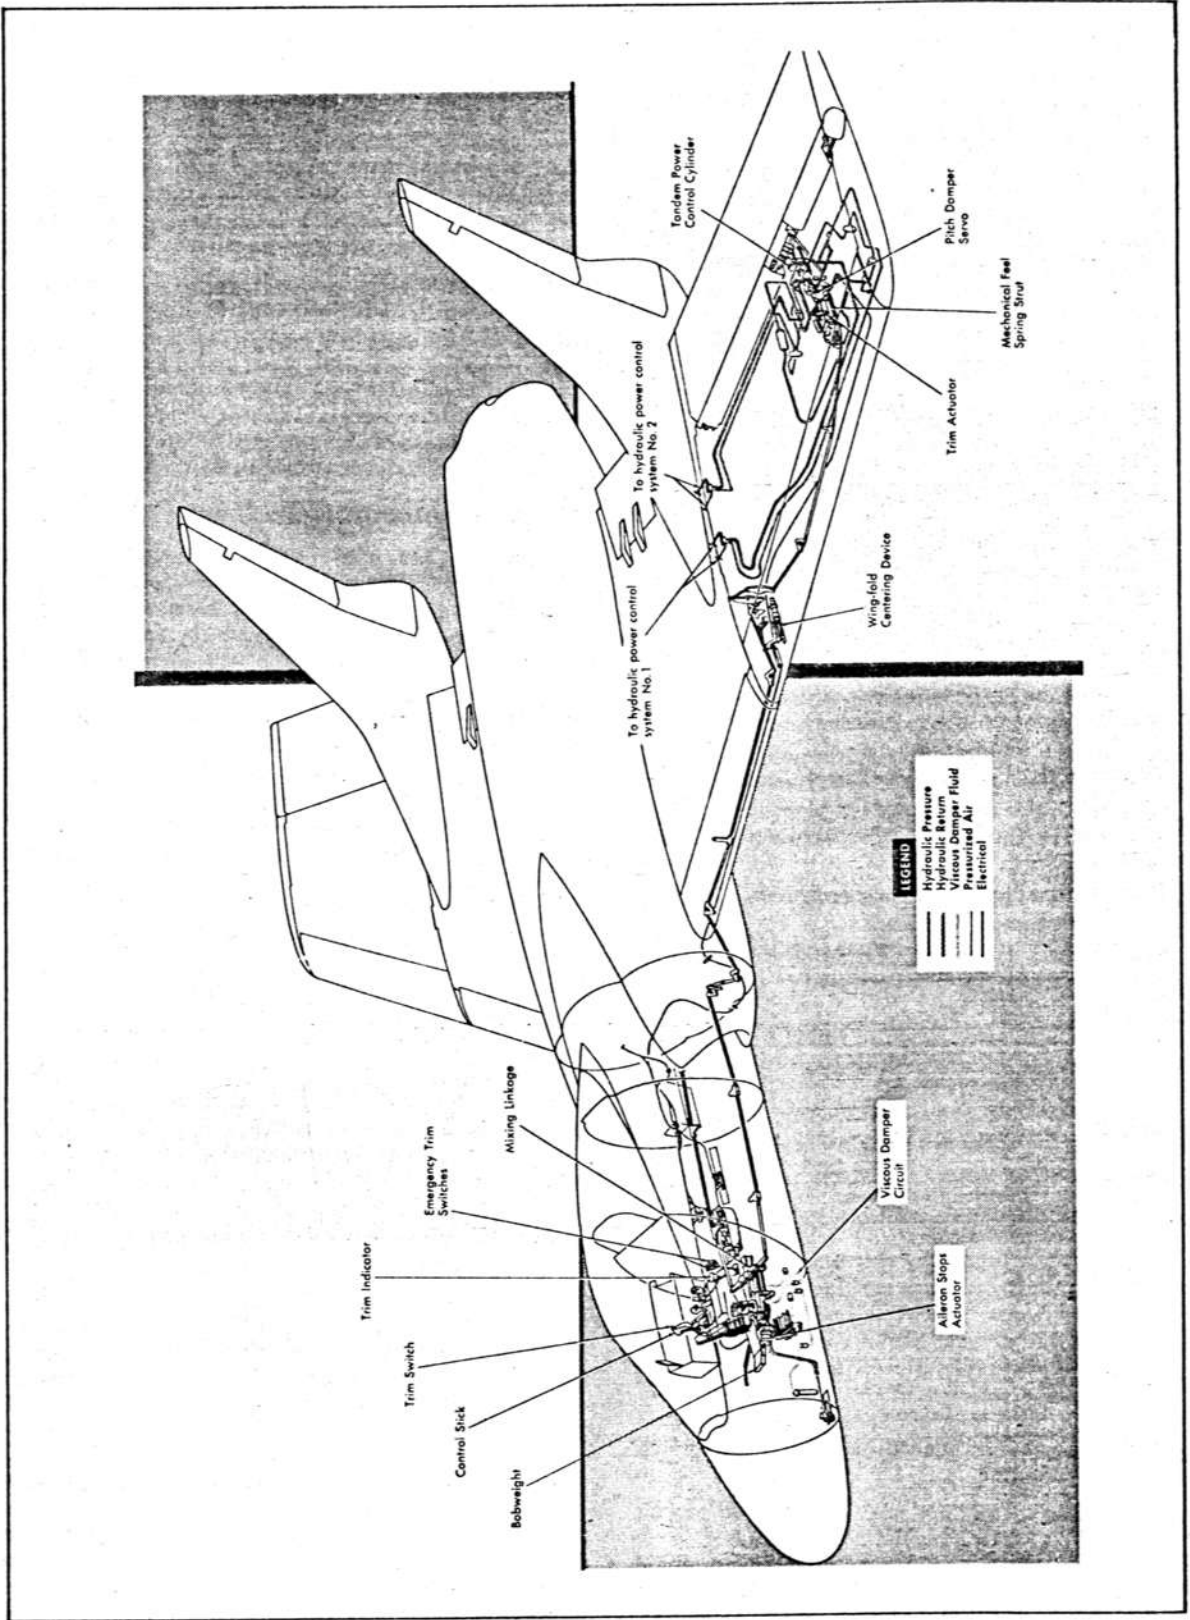

Figure 1-19. Aileron Control, Feel, and Trim System
**AILAVATOR FEEL.** (See figure 1-19.) Ailavator feel is developed by combining the action of a bobweight, two mechanical spring struts, and a viscous damper. (Viscous damper opposes direction of motion with a force proportional to rate of motion.) The bobweight and the viscous damper are directly connected to the control stick. A mechanical spring strut is connected to the control linkage in each outer panel. The viscous damper is a self-contained assembly with its own fluid reservoir and does not depend upon the airplane's hydraulic system. The function of each unit in developing ailavator feel forces at the control stick is given in the following breakdown:
**AILAVATOR TRIM.** (See figure 1-19.) The airplane is trimmed as follows:
**TRIM SWITCH.** The four-way button trim switch (figure 1-19) is located on the control stick grip. It controls longitudinal and lateral trimming of the ailerators. The four positions of the switch are momentary. The switch is moved forward for nose down, aft
**EMERGENCY TRIM SWITCHES.** The EMERG TRIM switches (figure 1-19) are located on the left-hand console. The left-hand switch controls the position of the left-hand ailerator and the right-hand switch controls the position of the right-hand ailerator. To achieve nose up or nose down trim, the two switches have to be actuated together.
**TRIM INDICATOR.** The trim indicator (figure 1-19) is located on the left-hand console. The indicator has two dials. The larger dial indicates the effective lateral trim; this value is the difference in degrees between the positions of the left- and right-hand pointers. These pointers are interconnected so that when one moves up the other moves down. The smaller dial in the center of the indicator shows the effective longitudinal trim.